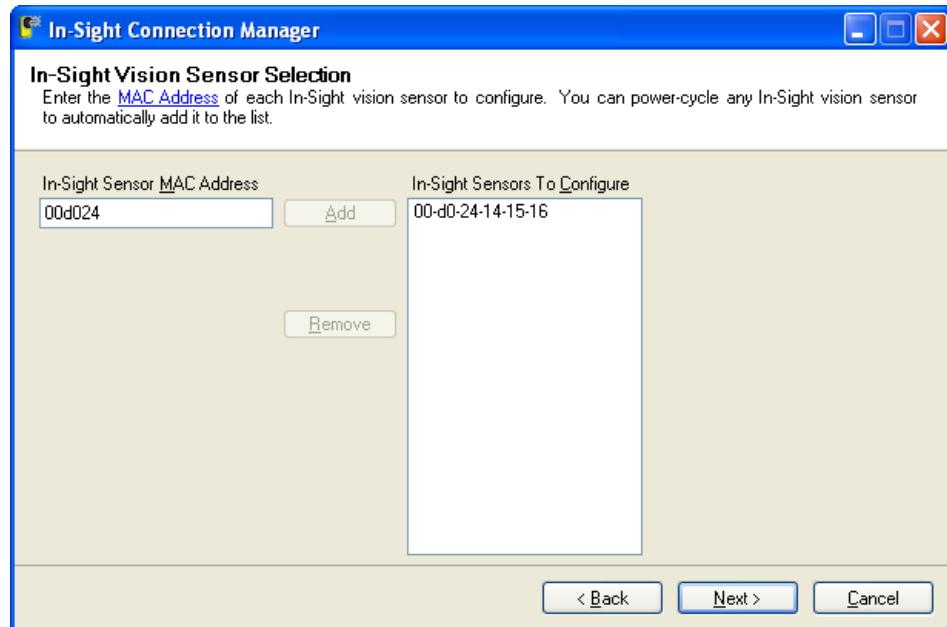

Figure 2-16: MAC Address
5. In the left-hand text box, enter the MAC Address for the In-Sight sensor you would like to configure, then click Add (Figure 2-16). Repeat these two steps for any additional sensors you would like to configure. Alternately, you can simply cycle power on any In-Sight sensors you would like to configure, and the In-Sight Connection Manager will automatically add the corresponding MAC address to the list after they reboot. Click Next.